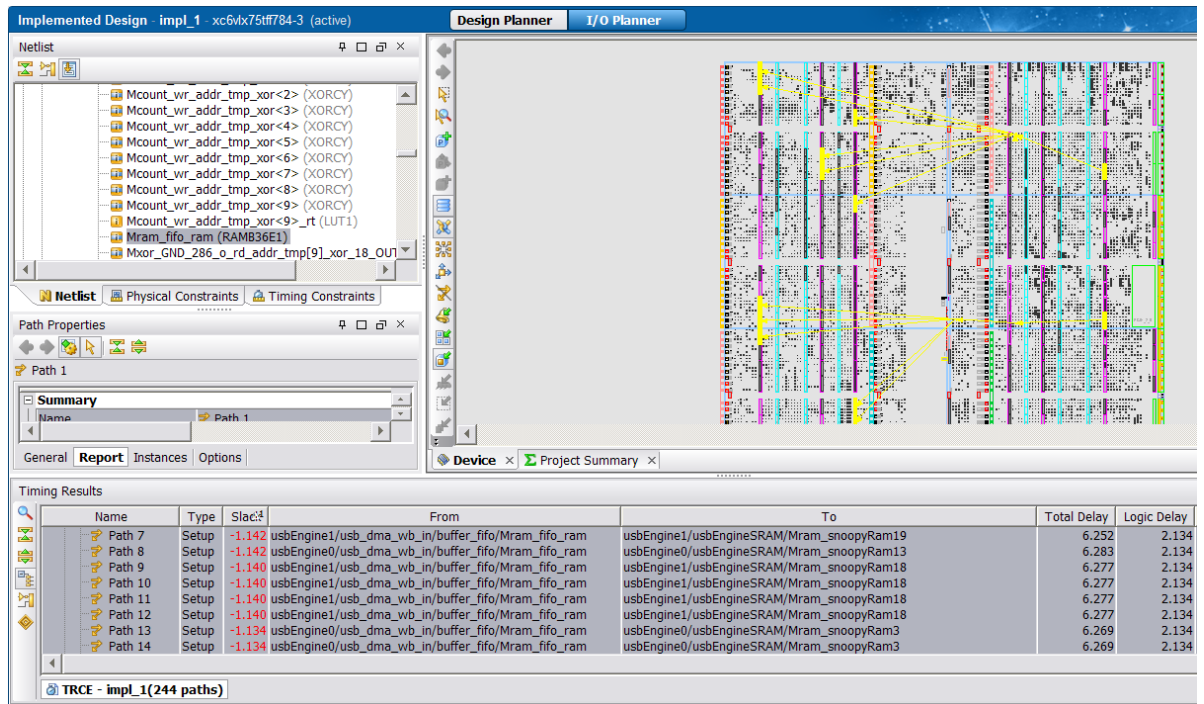

Figure 9: Selecting Timing Errors
- 1-3-5.** Highlight the failing paths by selecting them in the Timing Results view (Figure 9).